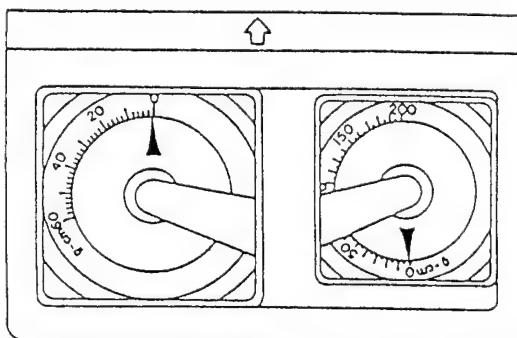

Fig. 3-17
7. TORQUE CONFIRMATION (Fig. 3-17) Confirm the following before adjusting the torque.